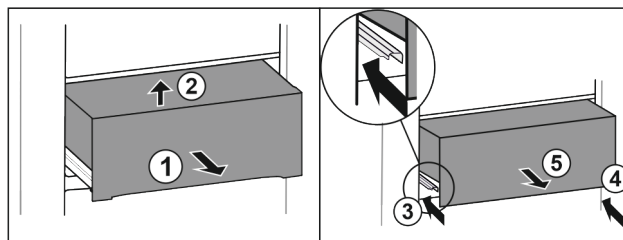

Fig. 37*
- ▶ Pull out the drawer halfway Fig. 37 (1).*
- ▶ Lift at the front Fig. 37 (2).*
- ▶ Slide in left rail Fig. 37 (3).*
- ▶ Slide in right rail Fig. 37 (4).*
- ▶ Remove the drawer to the front Fig. 37 (5).*